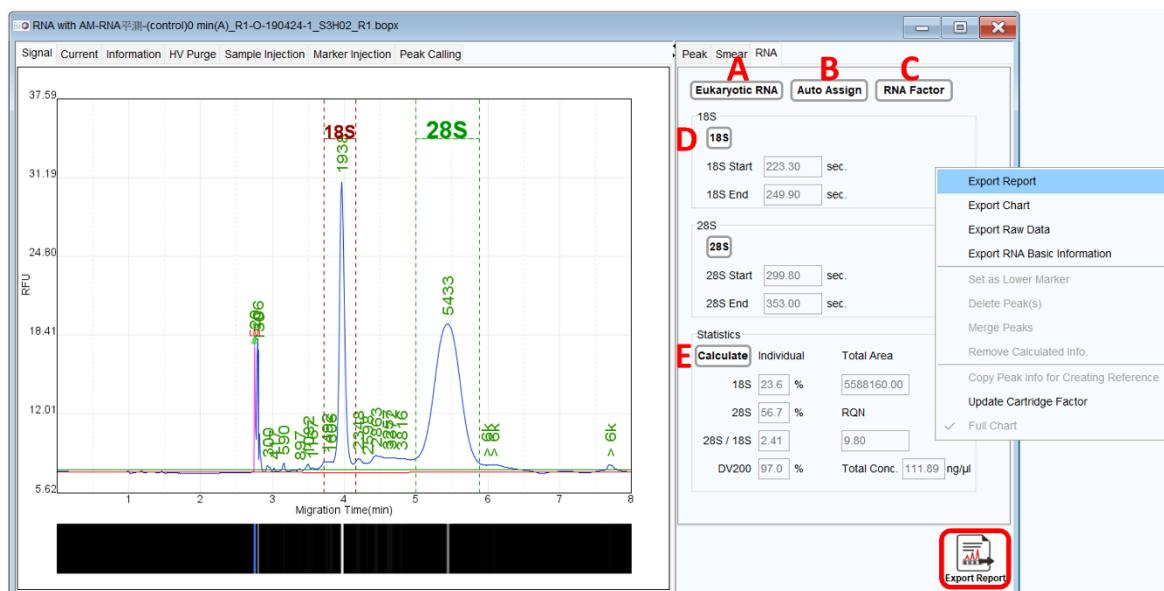

Figure 73 RNA Quality Check Panel
- To choose either Eukaryotic RNA or Prokaryotic RNA, click on the **Eukaryotic RNA** button (Figure 73 A)
- The systems will **Auto Assign** 18S/28S RNA (Eukaryotic) or 16S/23S RNA (Prokaryotic) based on your selection (Figure 73 B). If the margins do not properly cover the RNA area, you can manually drag them to the correct positions.
- To save the settings, click on the **RNA Factor** button to edit and save the RNA factor table (Figure 73 C).
- By clicking the 18S and 28S or 16S and 23S buttons, you can either hide or show (by default) the rRNA assignation on the electropherogram (Figure 73 D).
- Click on the **Calculate** button, and the 28S/18S or 23S/16S ratio, along with the RQN (RNA Quality Number) will be displayed (Figure 73 E).